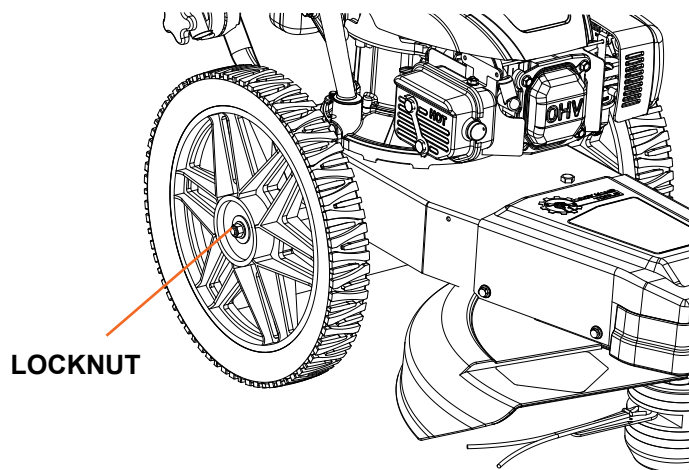

Figure 20
2. Loosen and remove the locknut (see Figure 20).
Cutting head won't spin or lacks power.	<ul style="list-style-type: none"> • Check for proper alignment of the v-belt. Check it against Figure 20 in the "Replacing the Belt" section on page 21. • The belt may be worn or frayed; if so, replace it. • If the cutting head still will not spin, follow the procedure for "Adjusting the Belt Tension through the Cutting head Control Cable" on page 20. • If none of the above helps, visit our web site at www.dirtyhandtools.com or call 1-877-487-8275 for assistance.
<p>Cutting head keeps spinning or spins when you release the safety bar.</p>	<ul style="list-style-type: none"> • Check for proper alignment of the v-belt. Check it against Figure 20 in the “Replacing the Belt” section on page 21. • If the cutting head keeps spinning when you release the safety bar, see “Adjusting the Belt Tension through the Cutting Head Control Cable” on page 20. • If none of the above helps, visit our web site at www.dirtyhandtools.com or call 1-877-487-8275 for assistance.